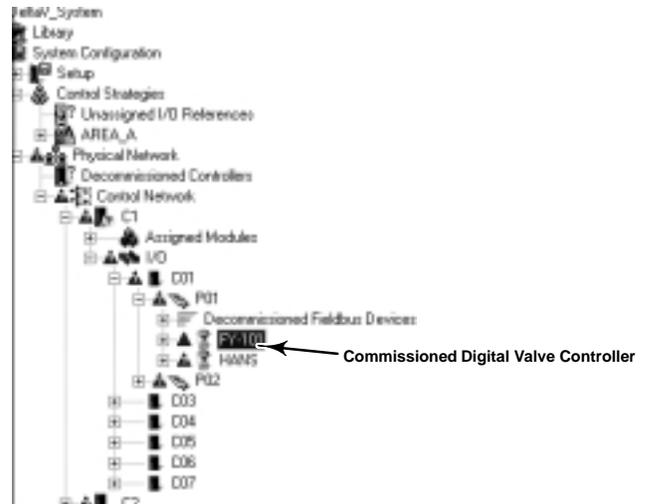

Figure G-14. Sample Location of a Commissioned Digital Valve Controller in DeltaV Explorer
2. Navigate through the file structure to find the digital valve controller you wish to configure (see figure G-14).